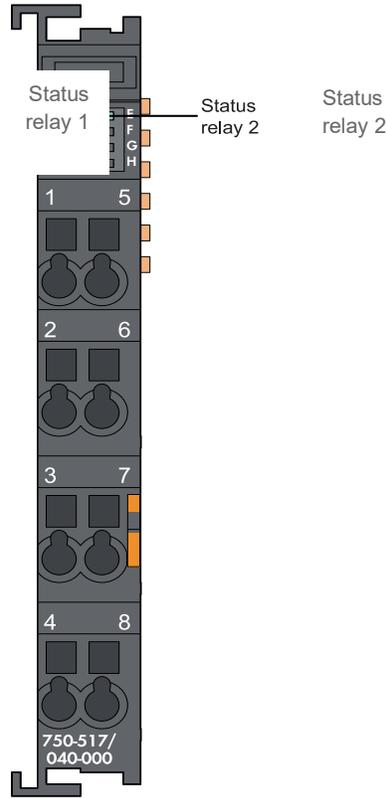

Figure 10: 2-channel digital output module (relay), 750-517
Refer to Figure 10 and Table 3 and follow the steps below to connect the digital outputs.
4. Connect the connection cables to the connection terminal for digital outputs (Figure 10 below).